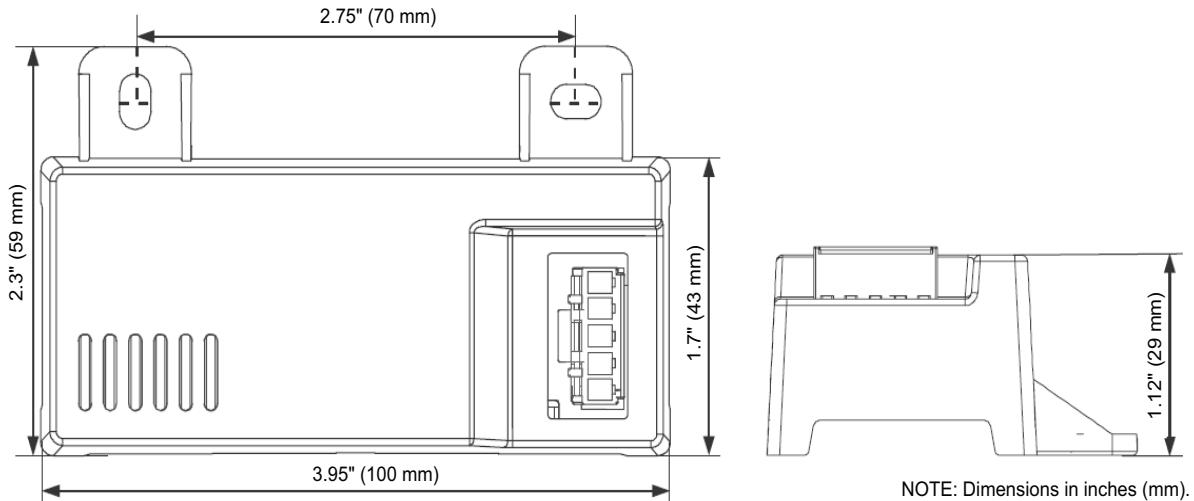
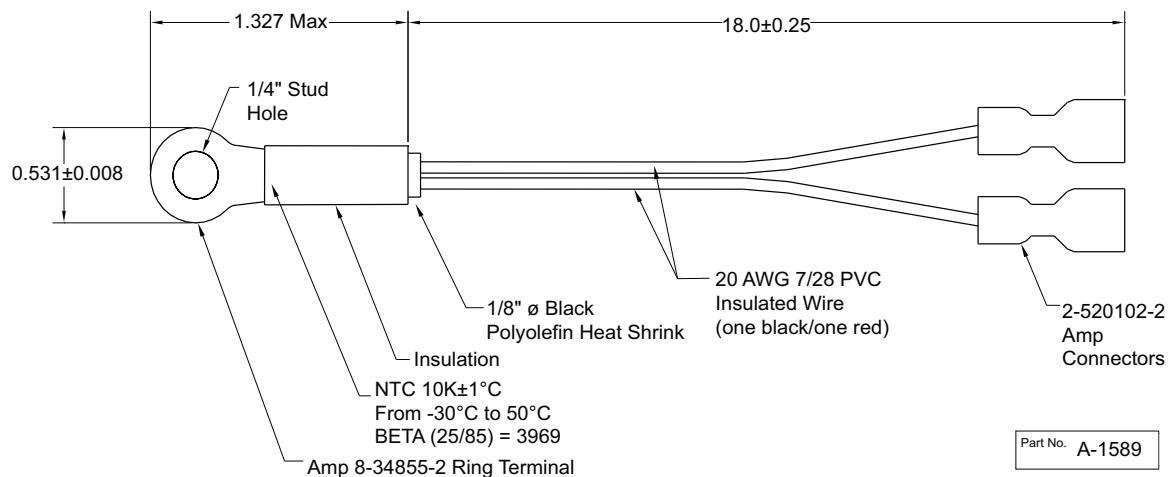
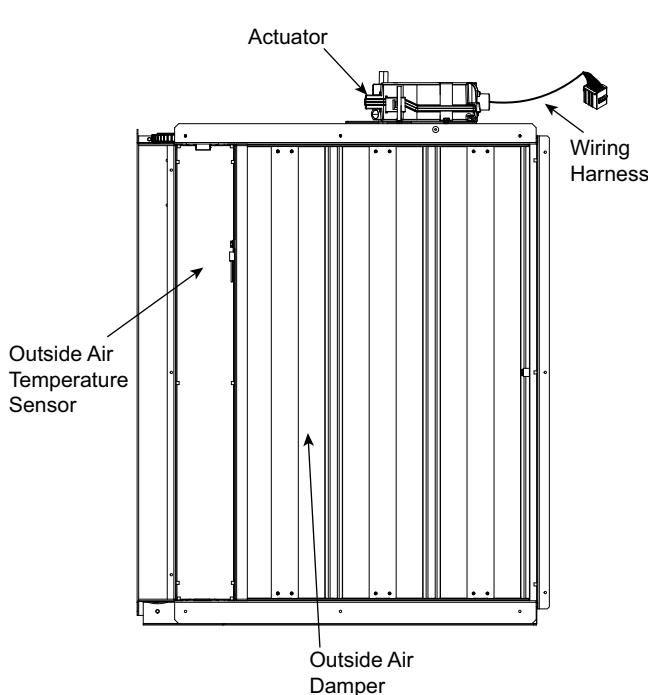

Fig. 66 — HH57LW001 Dimensional, Connection and Switching Information
Fig. 67 — HH79NZ039 Dry Bulb and Mixed Air Sensor Wiring
Fig. 68 — EconomizerONE Component Locations (CRECOMZR108A00 Shown)
When using the HH57LW001 enthalpy sensor (see Fig. 66) for outside air changeover, the existing HH79NZ039 dry bulb sensor (see Fig. 67) must be removed. The enthalpy sensor will be mounted in the same location as the dry bulb sensor (see Fig. 68). When the enthalpy sensor's OA (Outside Air) temperature, enthalpy, and dew point are below their respective setpoints, the outside air can be used for free cooling. When any of these are above the setpoint, free cooling will not be available. Enthalpy setpoints are configurable and create an enthalpy boundary according to the user's input. For additional details, see Fig. 69-70 and Table 28.
The optional enthalpy control sensor (P/N: HH57LW001) communicates with the POL224 economizer controller using the 5-wire harness, 48TC005213. The HH57LW001 sensor can be used as a single outside air enthalpy, a differential return enthalpy, or a differential return temperature sensor. Refer to the base unit control wiring diagrams found earlier in this book to wire the HH57LW001 enthalpy sensor for each option. Use Fig. 66 and Table 30 on page 49 to locate the wiring terminals for each enthalpy control sensor.
Economizers are shipped standard with an HH79NZ039 outside air dry bulb sensor (see Fig. 67). System default setting (high temp limit) is 63°F (17°C) and has a range of 48°F to 80°F (9°C to 27°C). Sensor is factory installed on economizer.
If installing the optional HH57LW001 enthalpy sensor, the HH79NZ039 dry bulb outside air sensor must first be removed. Wire sensor to harness 48TC005213 and the (5) wires from the harness to the EconomizerONE harness in the return air chamber. Harness 48TC005213 has a 5-pin plug that connects directly to the HH57LW001 enthalpy sensor. Refer to the base unit control wiring diagrams earlier in this book for wiring connections. Refer to Fig. 66 and Table 30.